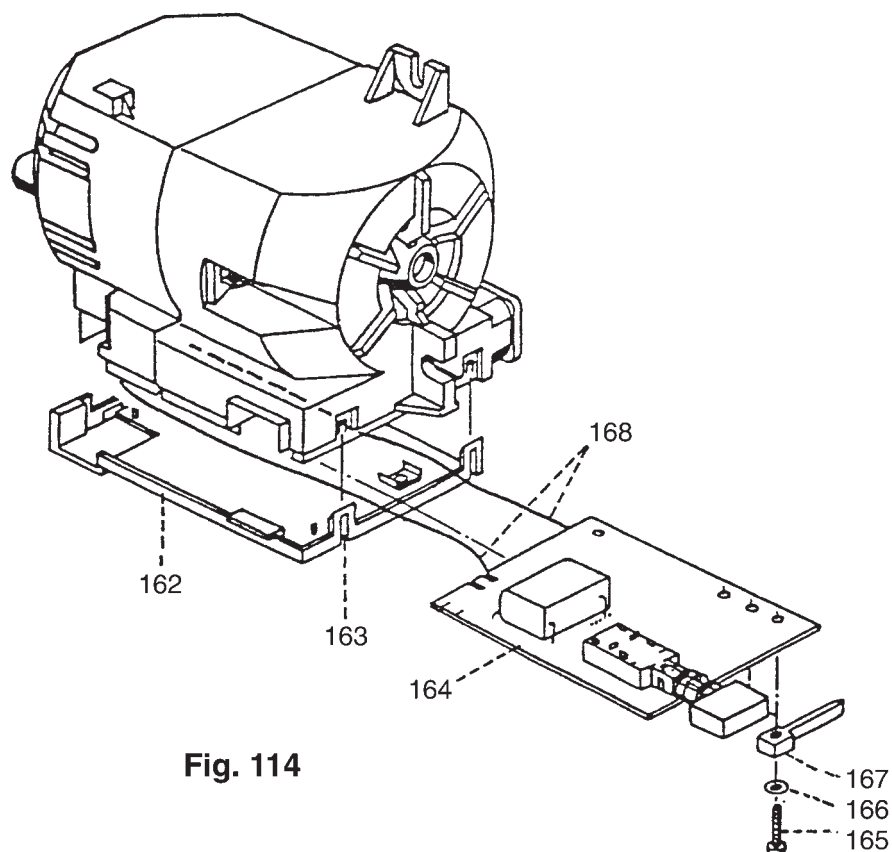

Fig. 114
- Slightly raise the two locking tabs 163 and remove cover 162 (fig. 114).